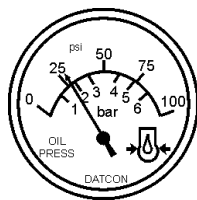

Figure 25. Oil Pressure Gauge
13. The engine oil pressure gauge (Figure 25) will indicate the oil pressure (kg/ cm²) of the engine. Under normal operating conditions the oil pressure is approximately 25 psi.